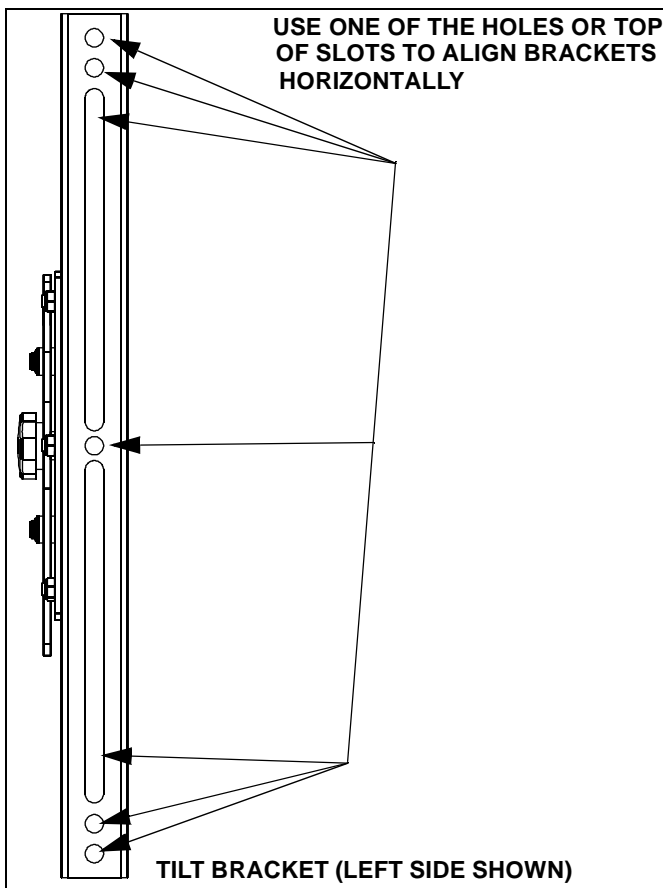

Figure 1
1. Place the left and right factory assembled interface bracket assemblies (20 and 30) on the back of the display. (See Figure 1)